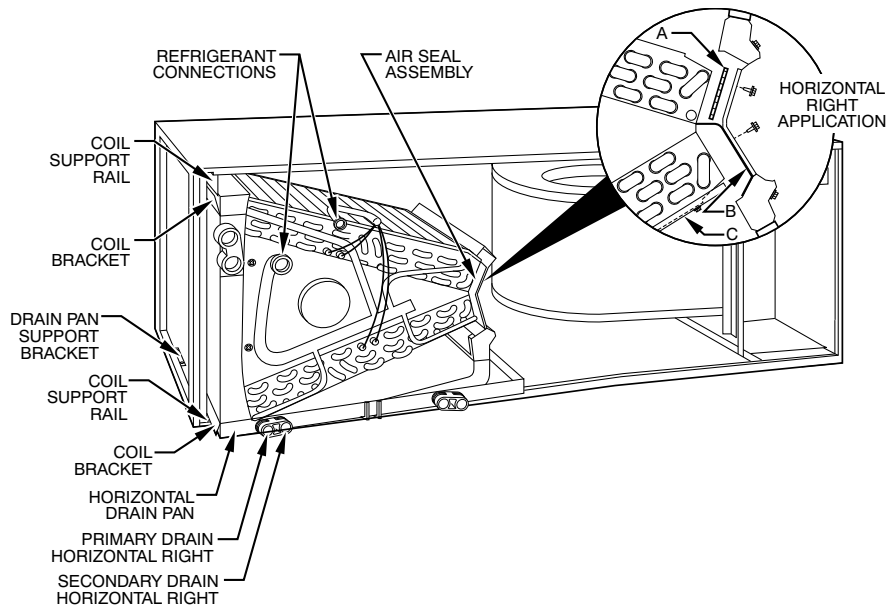

Fig. 5 – Conversion for Horizontal Right Applications - A-Coil
1. Remove blower and coil access panels and fitting panel. (See Fig. 5.)
1. Remove blower and coil access panels. (See Fig. 5.)
- a. Remove air seal assembly from coil by removing 4 screws. (See Fig. 5)